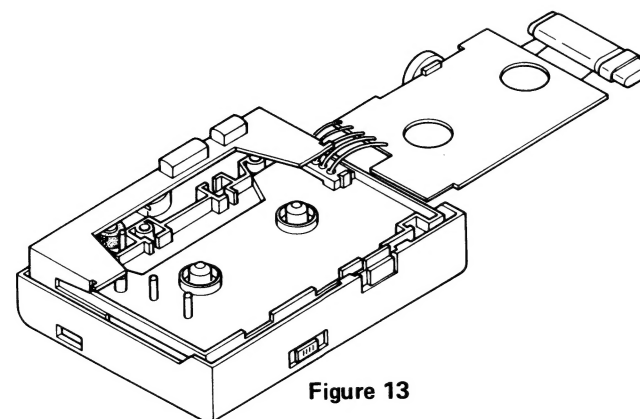

Figure 13
4. It is possible to inspect the rear side of the P.C. Board as shown in Figure 13.